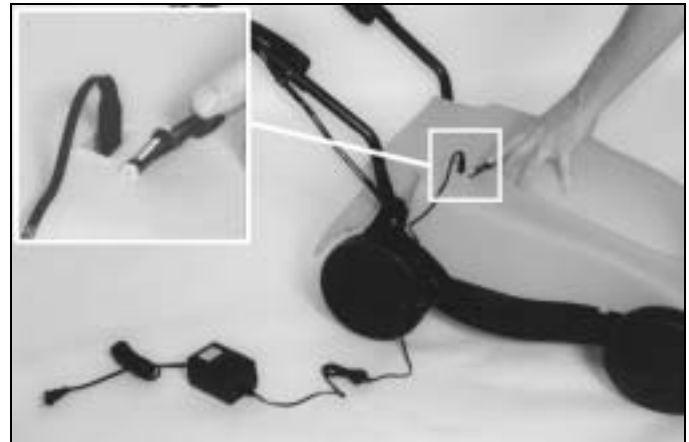

Figure 9
- With all four wheels on the mower touching the floor, plug the round plug from the charger into the charger receptacle (center hole) in the mower's key hole (*Figure 9*). Then plug the charger into the wall receptacle. The mower cannot be charged when the safety key is plugged in since it covers the charging receptacle. Likewise, the mower's motor cannot be operated during charging since it is impossible to have the safety key plugged in at the same time as the charger.